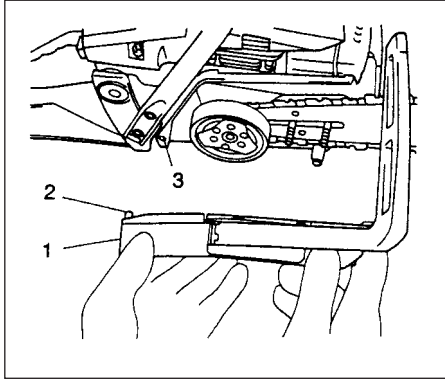

Fig.1-3
4. Install the side case (1) onto the guide bar clamp bolts while inserting location pin (2) on the side case into the location hole (3) on the unit. (Fig. 1-3)